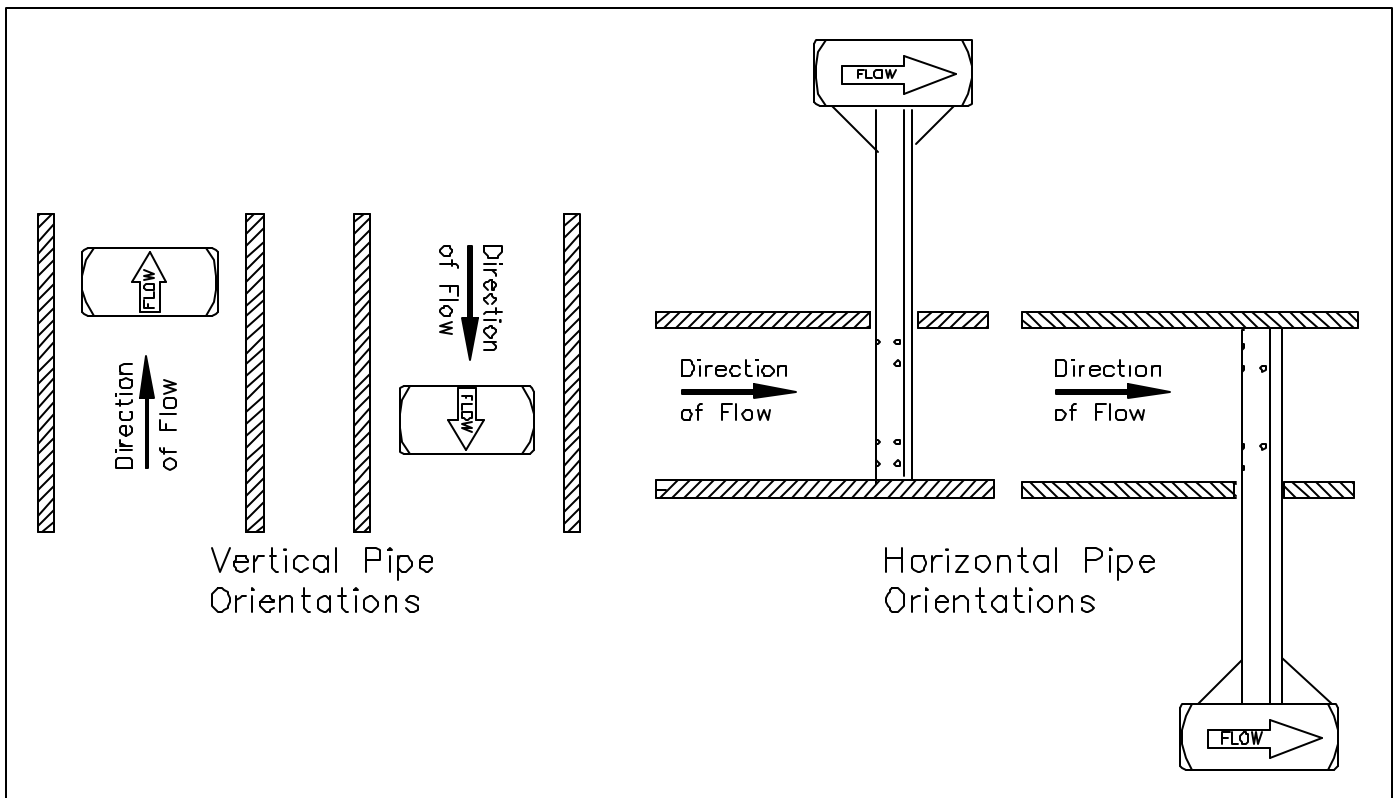

Figure 4. Orientation of Flow Arrow
- Align the head of the sensor so that the arrow labeled "flow" on the head is in the direction of the flow in the pipe to within 3° (Figure 4). Maintain the head in this position for the remainder of the operations.